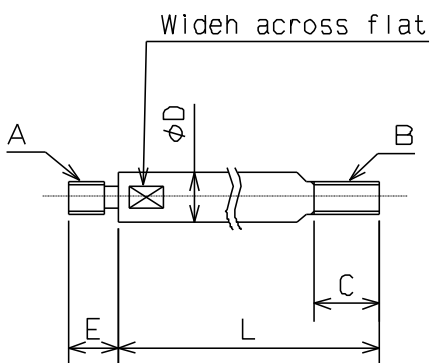

Fig.12
The dimension “L” in Fig.12 is determined from the distance “M” between the cylinder adapter and the spindle.
- Keep the dimension “B” (Max.) in Fig. 12 for the draw bar and a material with the tensile strength 380MPa (38kgf/mm²) or more must be used.